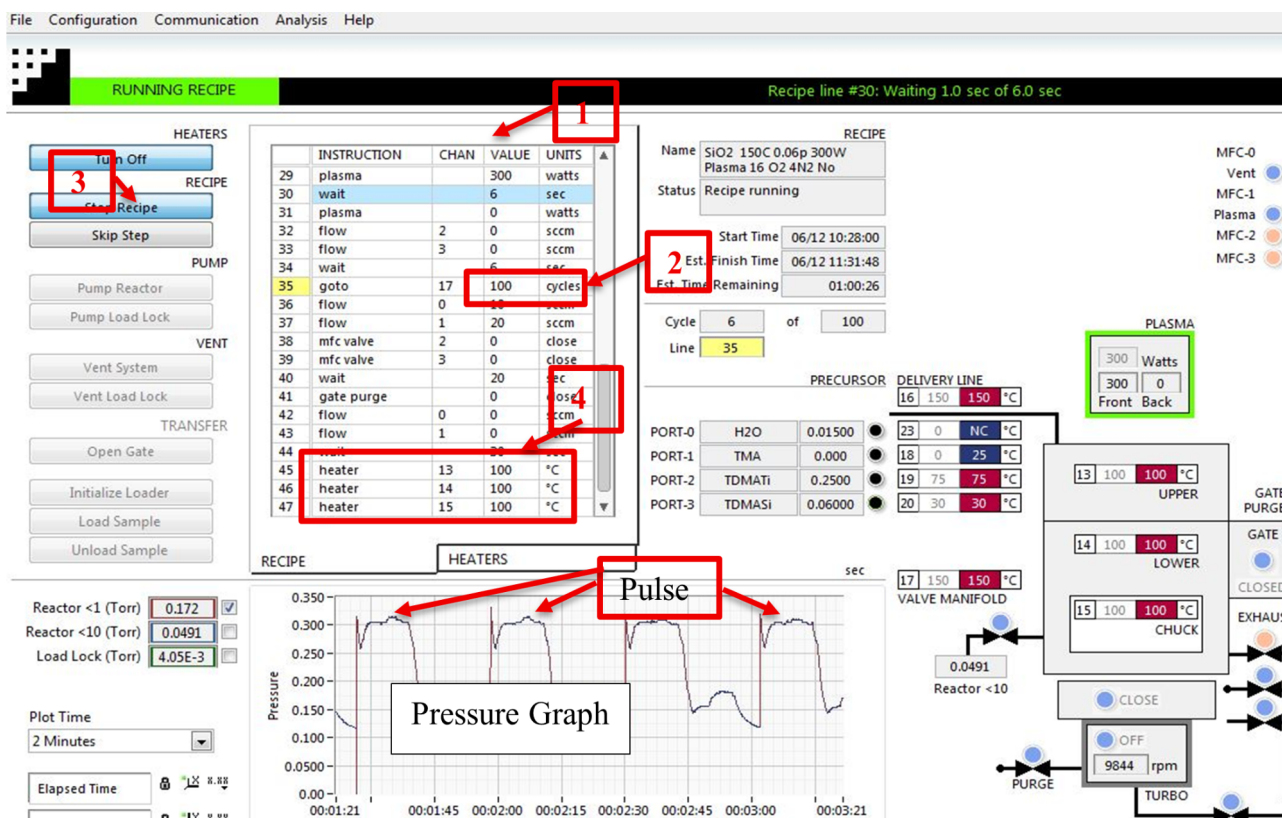

Figure 7 Loading recipe and modifying parameters
1. Right clicking anywhere in the CURRENT RECIPE window (see figure 7), [step 1]